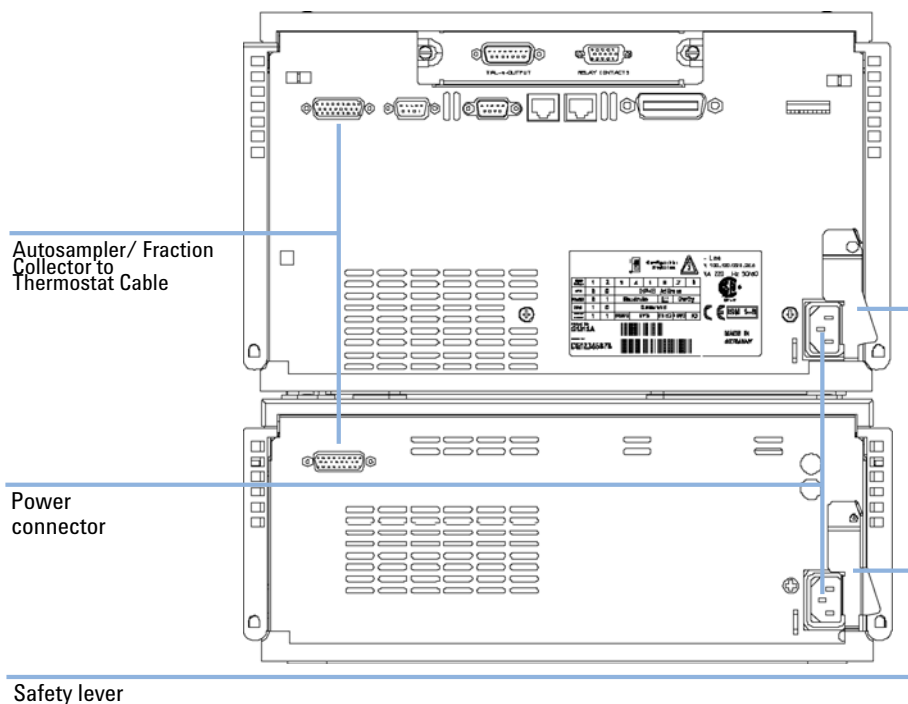

Figure 8 Power Connectors and Safety Levers at Rear of thermostatted Autosampler/Fraction Collector.
- 2 Connect the cable between the autosampler/ fraction collector and the thermostat, see Figure 8 on page 26.
- 3 Move the safety lever at the rear of the two modules to the right position, see Figure 8 on page 26.